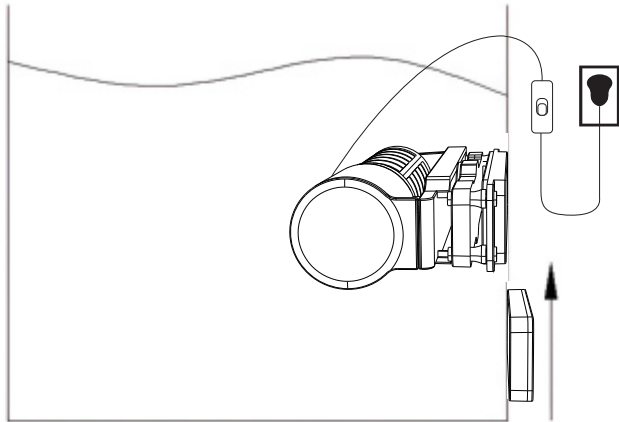

Figure 1
2. Installation of the wave pump body: First, take the pump body out of the packaging and hold it in the middle against the inside of the aquarium glass. Then, guide the magnetic holder to this position from the outside and make sure that both parts stick together. Take care when assembling the magnet base. Keep it parallel to the pad near the outer wall of your aquarium to avoid damaging the glass.(Figure 1)